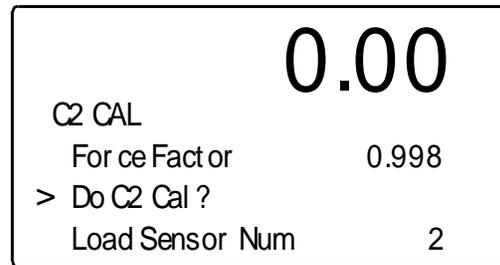

FIG. 2-41 C2 CALIBRATION
- Step 20. Press the down arrow button to move the cursor in front of "Do C2 Calibration". (See Fig. 2-41)